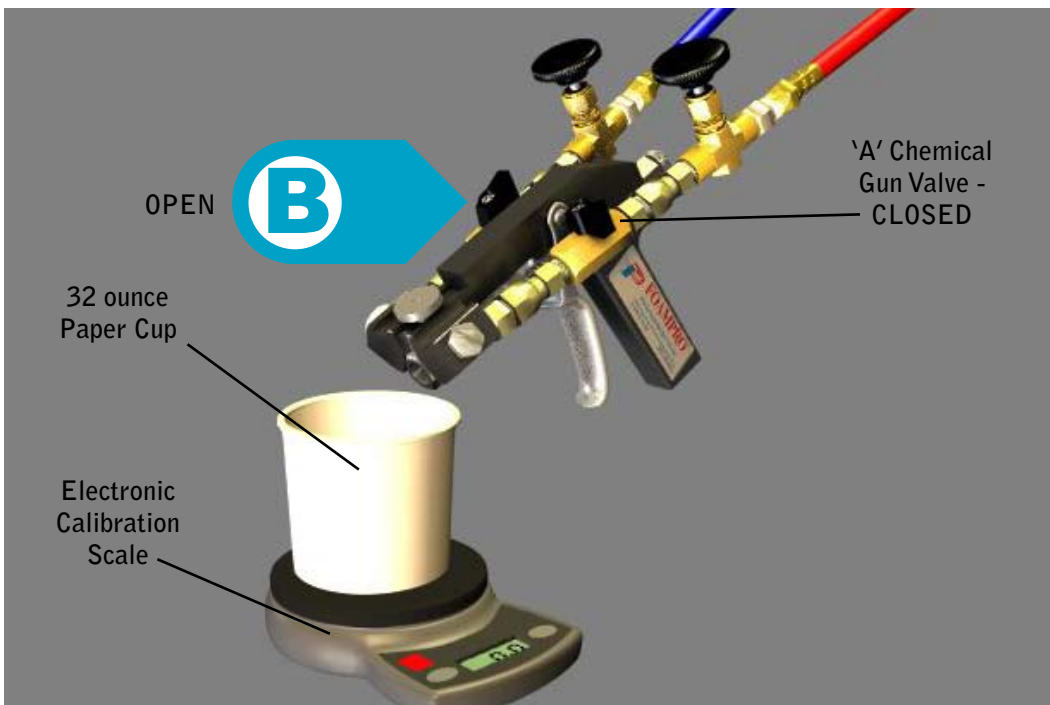

Figure 11
- 6 | Close the “A” chemical valve on the RTF1000EZ dispenser, leaving the “B” chemical valve open. (See Figure 11)